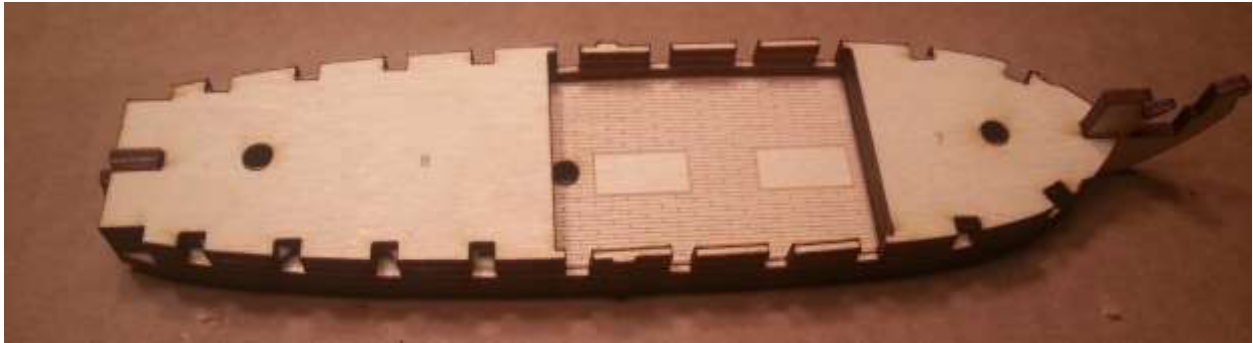

Figure 3
will build up the gun ports on both the port and starboard side. Build a second layer using (Part 6) Finish the side walls by gluing the railing (part 7) on top of the gun ports. Now move to the mid ship and add glue (part 10) into place using the etched lines on (part 5) as a guide. Then add part (11) on top of (part 10). See figure 3 below.